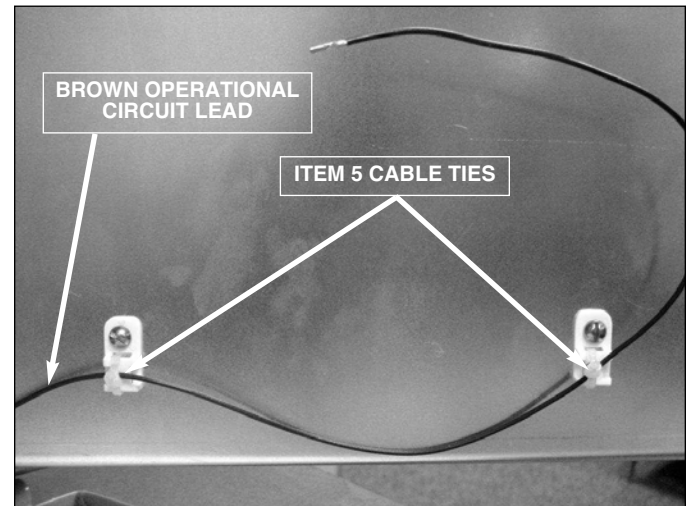

Figure 5.
6. Place two cable ties through the cable tie guides on the mounting bases on the back of the CL6 front panel. Thread the brown through the cable ties (See Figure 5).